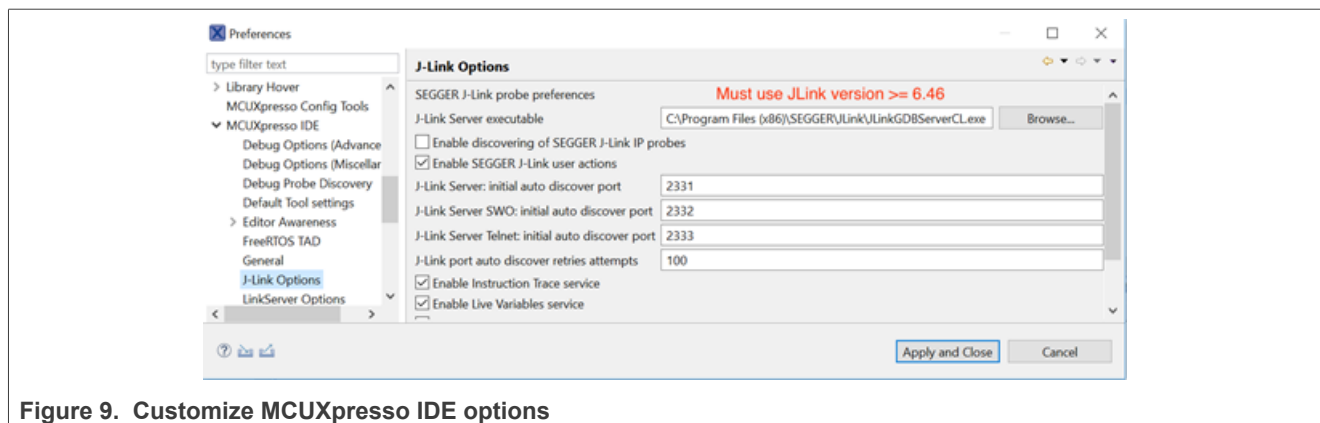

Figure 9. Customize MCUXpresso IDE options
**Note:** SEGGER J-Link software version >= 6.46 is required for compatibility with RT500. MCUXpresso IDE may ship with an older version, which is customized as in Figure 9.